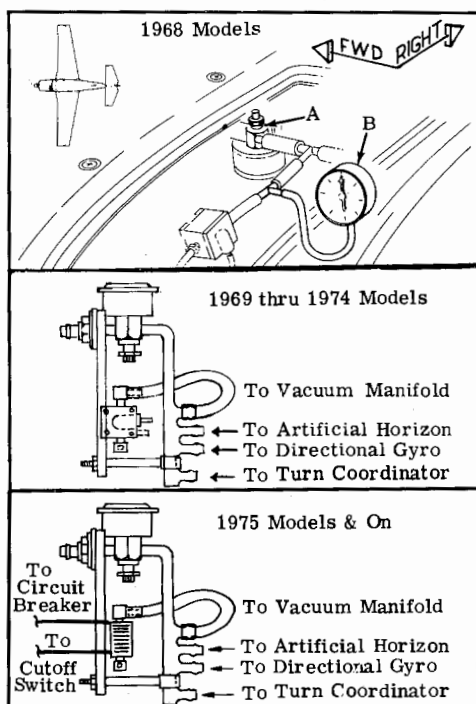

Figure 6-16. Primary Vacuum Test
4. Perform primary vacuum test by installing vacuum gage (B), Figure 6-16, and adjusting vacuum regulator (A) to 4.75 ± 0.25 IN. Hg.
IN. Hg at vacuum regulator (Figure 6-16).